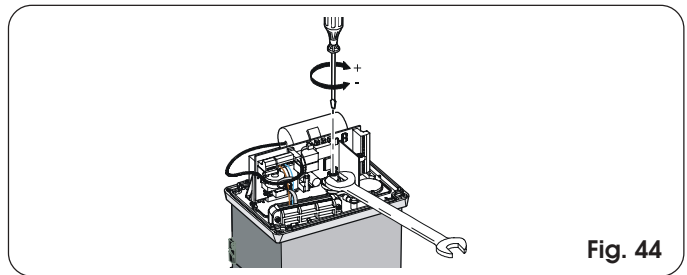

Fig. 44
- Keep the motor shaft locked with a wrench and turn the clutch adjustment screw with an Allen wrench or screwdriver as shown in Fig. 44.